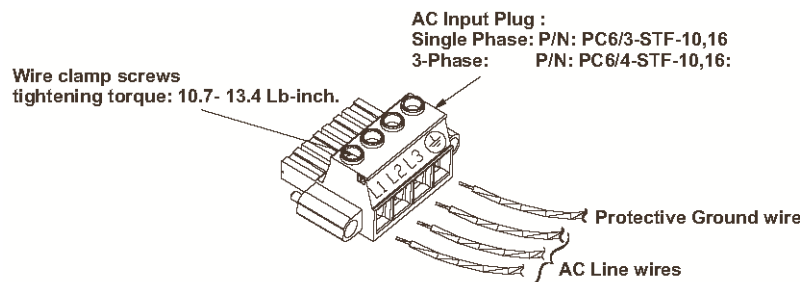

Fig.3-3: AC Input plug (3-Phase shown)
- d) Connect the AC wires to the terminals of the input plug supplied with the unit. To connect the wires, loosen the terminal screw, insert the stripped wire into the terminal and tighten the screw securely 10.7-13.4Lb-inch (1.2-1.5Nm). Refer to Fig. 3-3 for details. Pay attention to connect the wires according to the polarity marking on the plug.